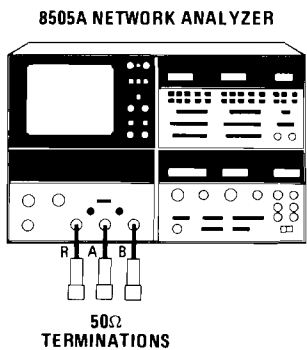

Figure A4-7. Noise Floor Test Setup
- a. Connect equipment as shown in Figure A4-7.